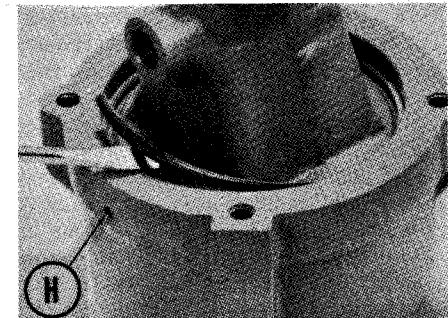
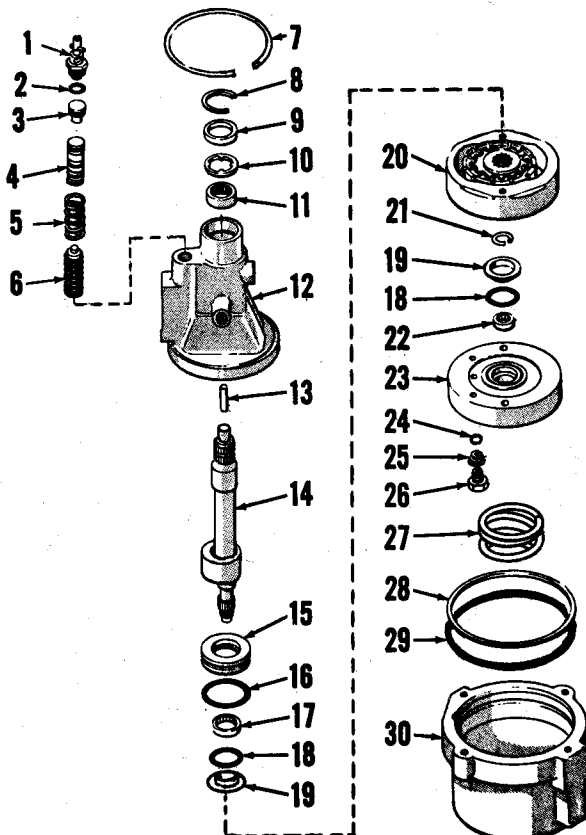
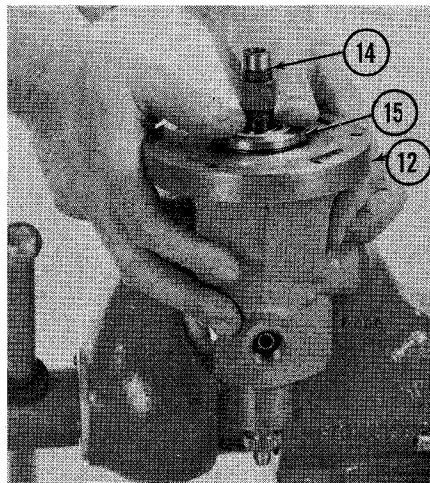

Fig. 13—To remove cover retaining snap ring, drive pin punch through hole (H) in cover to disengage snap ring from groove.
Fig. 10—Exploded view of the Saginaw Hydramotor steering unit. Also refer to Figs. 11 to 27 for photos showing disassembly and reassembly techniques.
Fig. 23—When pushing bearing support (15) into housing (12), be careful not to damage the "O" ring on outside groove of support.
17. R&R COVER RETAINING SNAP RING (Hydramotor Models). To remove snap ring (7—Fig. 10) used to retain cover (30) to housing (12) proceed as follows:
With unit removed from tractor as outlined in paragraph 14, check to see that end gap of snap ring is near hole in cover as shown in Fig. 13; if not, bump snap ring into this position with hammer and punch. Insert a pin punch into hole and drive punch inward to dislodge snap ring from groove. Hold punch under snap ring and pry ring from cover with screwdriver. Usually, the coil spring (27—Fig. 10) will push housing from cover; if not, bump cover loose by tapping around edge with mallet.
CAUTION: Do not push against end of shaft (14—Fig. 10).
When housing has been pushed far enough into cover, install snap ring in groove with end gap near hole in cover as shown in Fig. 13.
Clamp flat portion of Hydramotor housing in a vise and remove cover (30—Fig. 10) by pulling upward with a twisting motion. Remove the pressure
Fig. 20—Lifting the Teflon rotor seal (19) and "O" ring (18) from bearing support (15). Needle bearing (17) is serviced separately from bearing support. Groove (G) is for support sealing "O" ring (16—Fig. 10). Identical seals (18 and 19) are used in pressure plate.
Remove the check valve retainers (26—Fig. 10), springs (25) and check valve balls (24) from pressure plate (23) and blow passages clear with compressed air. Renew the pressure plate assembly if check valve seats or face of plate are deeply scored or damaged. Renew needle bearing (22), springs (25) and/or check valve balls (24) if damaged and pressure plate is otherwise serviceable.
To reassemble the Hydramotor unit, place housing (12—Fig. 10) (with needle bearing, seals and snap ring installed) in a vise with flat (bottom) side up. Check to be sure that pin in actuator is engaged with hole in valve spool; if spool can be pulled away from actuator as shown in Fig. 22, push the spool back into actuator and be sure pin is engaged in one
16. Jamnut (2)
17. Pivot stud (2)
of the holes in spool. Then, lubricate spool and shaft and carefully insert the assembly into bore of housing. Place bearing support (15) with outside "O" ring and needle bearing installed on shaft, and carefully push the support into housing as shown in Fig. 23. Insert rotor sealing "O" ring and rotor seal into bearing support. Place ring and rotor assembly (20—Fig. 10) on shaft and housing with chamfered outer edge of ring up (away from housing). Install a new rotor retaining snap ring (21) and insert the dowel pins through ring into housing. Using heavy grease, stick the "O" ring and rotor sealing ring (19) into pressure plate, then install the pressure plate and bearing assembly over shaft, pump ring and rotor assembly and the two dowel pins. Place the coil spring on top of pressure plate. Install new "O" ring and backup ring in second groove of cover (Fig. 26), lubricate the rings and push cover down over the pressure plate and ring. While holding the cover on the assembly, place the unit in an arbor press and insert the cover retaining snap ring as outlined in paragraph 17. Reinstall Hydramotor as outlined in paragraph 14.
27. Remove cap (1) from adjuster knob (2), remove nut, washer and knob. Use a suitable puller to remove steering wheel and tube assembly from inner shaft (6). Remove left and right hood panels. Disconnect the four tubes from power steering motor (15) and cap or plug all openings. Remove the heat deflector panels below steering motor to allow removal out the bottom. Loosen two jam nuts (16) and unscrew pivot studs (17) from support (18) until assembly can be brought down and out right side of tractor.